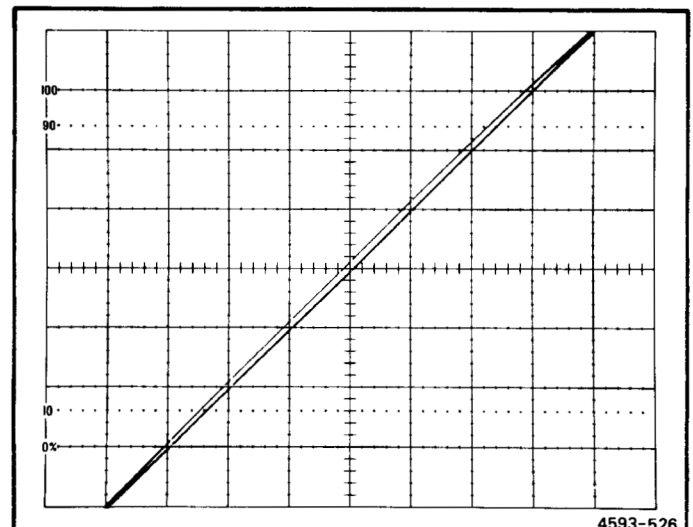

Figure 5-3. Typical display when checking X-Y phase compensation.
- CHECK**—crt display for a Lissajous display with separation of 0.28 division or less (indicates 2° or less phase shift; see Figure 5-3).
- CHECK**—the crt display for a Lissajous pattern with a separation of 0.28 division or less (indicates 2° or less phase shift; see Figure 5-3).
- ADJUST**—X-Y Comp adjustment, C814 (on the A17 X-Y Delay Compensation Board) for minimum separation of the display (see Figure 5-3).
- ADJUST**—X-Y Comp adjustment, C804 (on the A17 X-Y Delay Compensation Board) for minimum separation of display (see Figure 5-3).